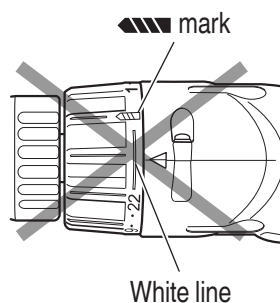

Fig. 5
- Do not use with the clutch dial numeral between “22” and the white line at the middle of the drill mark. Doing so may cause damage. (See Fig. 5)